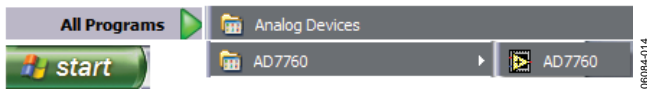

Figure 14. Default EVAL-AD7760/AD7762/AD7763 Evaluation Software Location
1. The download default location for the EVAL-AD7760/AD7762/AD7763EB evaluation software can be found by clicking **Start > All Programs > Analog Devices > AD776x > AD776x**. These steps are illustrated for the case of the AD7760 in Figure 14. If a location other than the default was used, follow the path that was entered during setup.